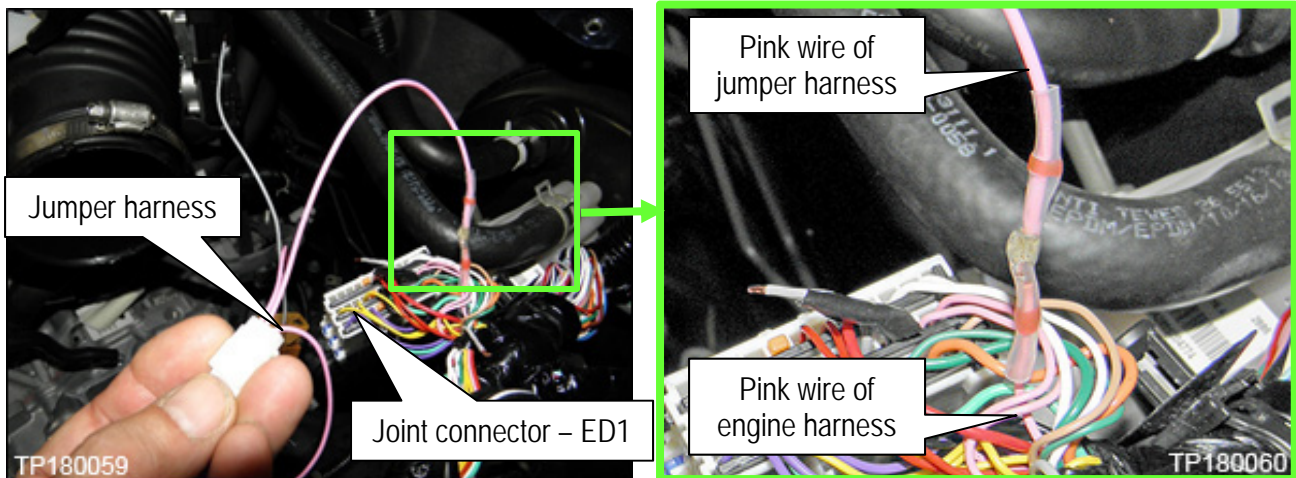

Figure 37
- Figure 37 shown with solder connection of pink wire of jumper harness and pink wire of Joint connector –ED1 completed.